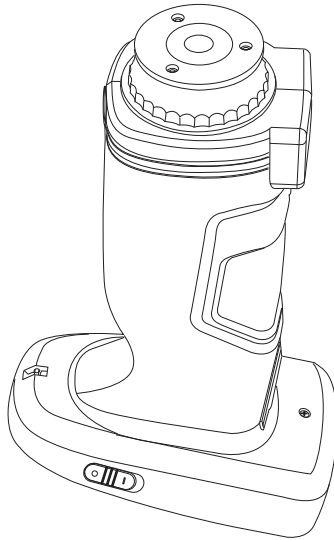

Figure 49 Measurement Aperture
Step 1: As shown in Figure 49, counterclockwise rotates the measurement aperture, and take off it, then install the new aperture clockwise. When there is a voice, it means that the measuring aperture and the integrating
Step 2: As shown in Figure 49, if it is $\Phi 4$ mm aperture, it is required to switch to SAV; if it is $\Phi 8$ mm aperture, switch to MAV.